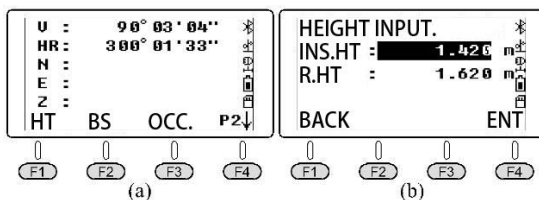

Figure 2-45 Execute the command "Height"
Press **(F3)** (CORD) to switch the screen to display the measured 3D coordinates of the back sight point [Figure 2-45(l)]. Press **(F3)** (Δ) to switch the screen to display the measured 3D coordinates differences of the back sight point [Figure 2-45(k)]. Press **(F4)** (OK) to return to the function menu on page P2 of Coordinate Measurement.
Check or set the height of instrument and the target. In the function menu on page P2 of Coordinate Measurement [Figure 2-45(a)]. Press **(F1)** (HT) to enter the interface as shown in Figure 2-45(b). You can check the latest setting of height of instrument and the target, or re-input the height of instrument and the target and then press **(F4)** (OK). If it needn't to revise the above two heights, press **(ESC)** to return to the function menu on page P2 of Coordinate
Measurement [Figure 2-45(a)].